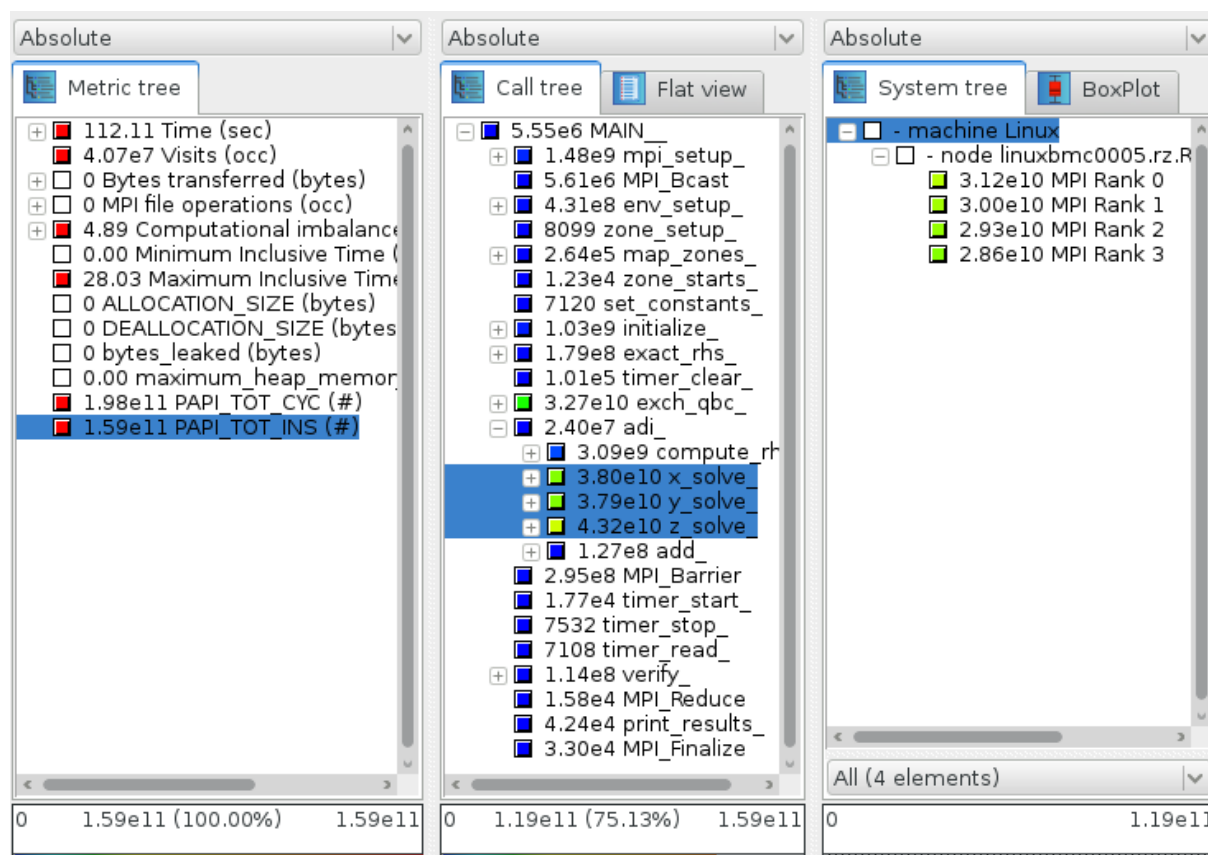

Figure 5: Distribution of the executed instructions among processes (Cube)
- c) $INS\ LB = \text{sum } INS / (\# \text{processes} * \text{max } INS) = 1.19e11 / (4 * 3.12e10) = 0.95$ (see Figure 5). The instructions load balance is also very good. That means the processes get almost the same amount of work to compute.